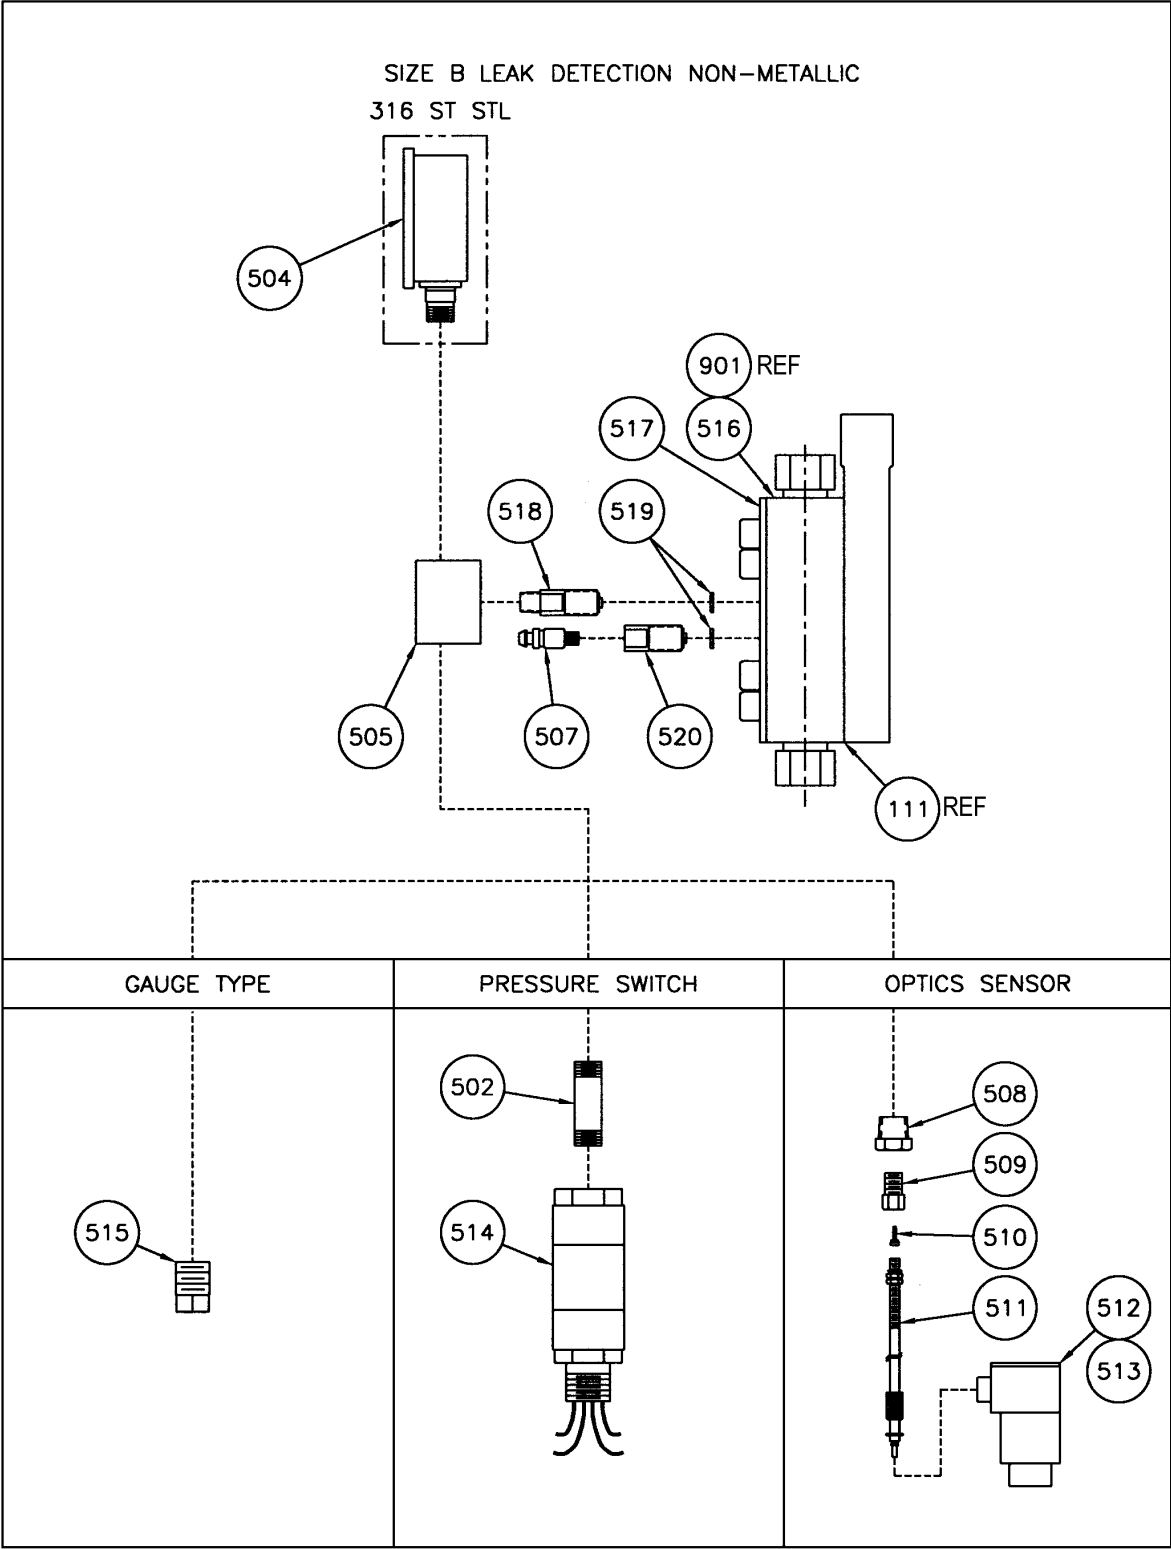

Figure 52. Non-Metallic Leak Detection, Size B and C.
6.18 NON-METALLIC LEAK DETECTION, SIZE B & C (FIGURE 52)